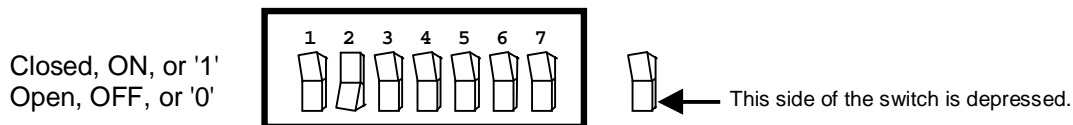

Figure 2 – CGM500 Dip Switches
3.2 DIP Switches (Refer to Figure 2.)
The following tables indicate the possible DIP-switch settings and associated segment addresses. (Refer to Figure 2 to determine how to read the switches.)